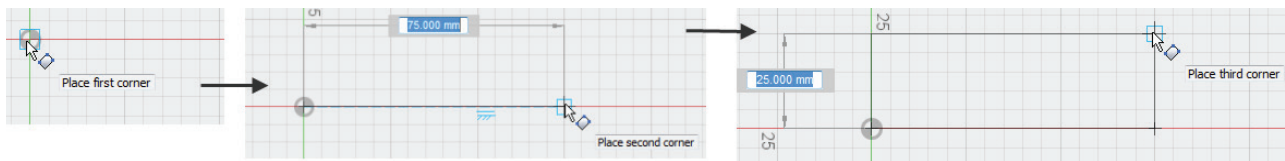

Figure-9. Creation of 3-point rectangle
- Click at the desired location to specify first corner point of the rectangle on the sketch canvas; refer to Figure-9.